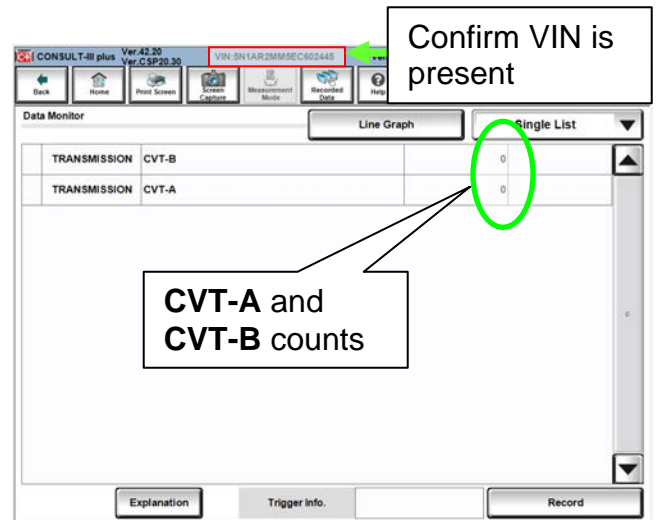

Figure 4
6. If it is confirmed that this bulletin applies, submit an order for the **SERVICE KIT** listed in the Parts Information table by sending an email with the screen print (Figure 4) from Step 5 to:
**IMPORTANT:** Please make sure the VIN number is clearly visible at the top of the screen print from Step 5 (Figure 4).